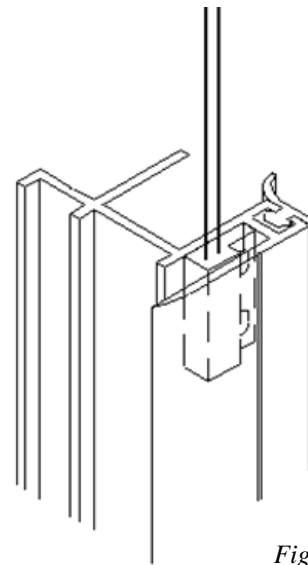

Fig. 9
- Place the end of curtain travel proximity switch 2-3/4" from the top of the track to the bottom of the switch and 2-3/4" from the bottom of track to the top of the proximity switch. This distance should be increased to 3-1/4" when a bottom rail extension is used and 4-1/4" for the tall bottom rail. See Fig. 9 for an example of where the proximity switch is located with conventional track. Temporarily install the switch in the track with silicone or some other temporary substance.